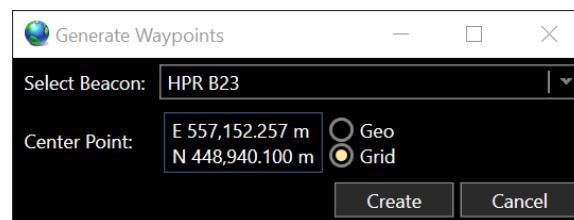

FIGURE 16-11 GENERATE WAYPOINTS
- Review/Edit **Center Point** position, this being the calibration beacon initial position, see Figure 16-11